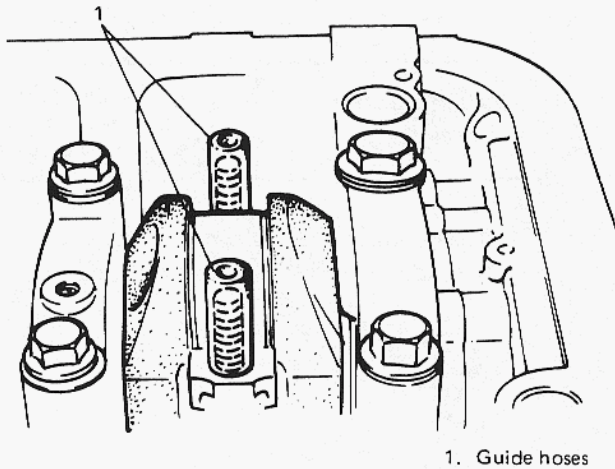

Fig. 3-6-18 Guide hoses installation
- ① Apply engine oil to pistons, rings, cylinder walls, connecting rod bearings and crankpins.
- ② Put guide hoses over connecting rod bolts as shown in Fig. 3-6-18. These guide hoses protect crankpin and thread of rod bolt from damage during installation of connecting rod and piston assembly.